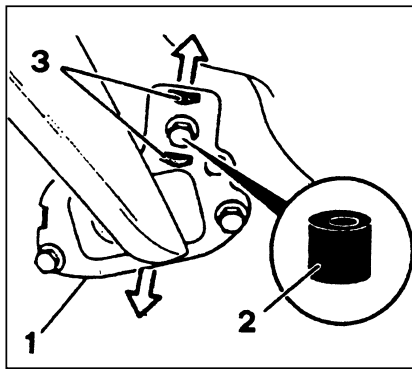

Figure 7 Adjusting the toe-in at the front trailing-arm mounting (1) of the rear suspension. - 2 Adjusting tool - 3 Adjustment tabs.
To adjust the **toe-in**, undo the three fastening bolts of the front trailing-arm mounting (Figure 7). There is a special BMW tool for this job, which is applied to the upper bolt, but you can achieve the same effect by inserting a lever between the head of the bolt and the upper or lower tab (3) and pressing lightly to obtain the required setting. Finally, tighten the bolts at 77 Nm.